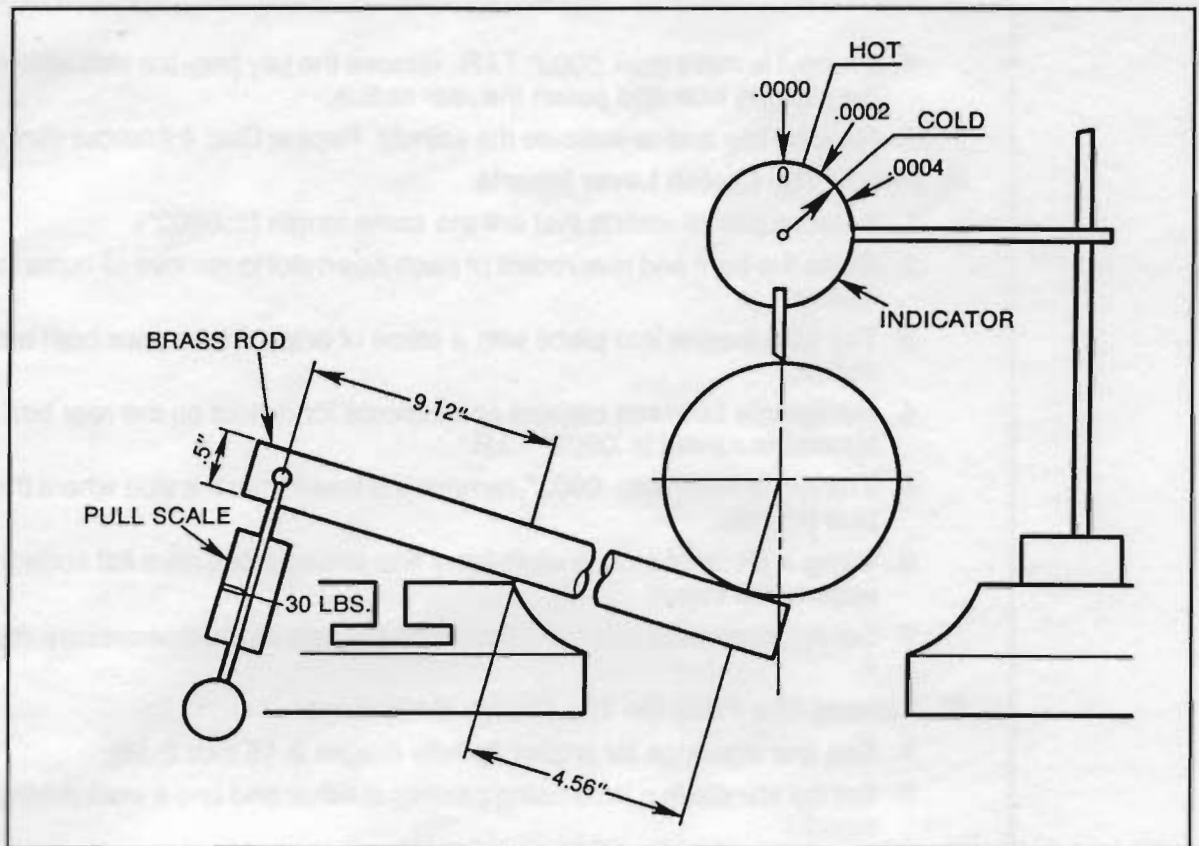

Figure 2-15
7. Check Spindle Lift (Figure 2-15). The $4\frac{9}{16}$ " dimension is obtained when cross slide is in back position. When pulling on scale make sure it is a 90° pull. A tenth indicator must be used, take reading, release pull, push spindle down, rotate $\frac{1}{4}$ turn, take another reading, do this at least three times.